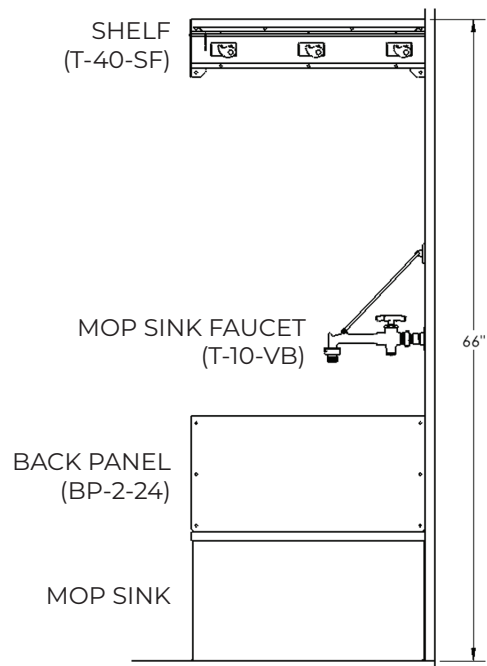

Figure 1
- Mark the hole locations using recommended measurements shown in Figures 1 & 2.